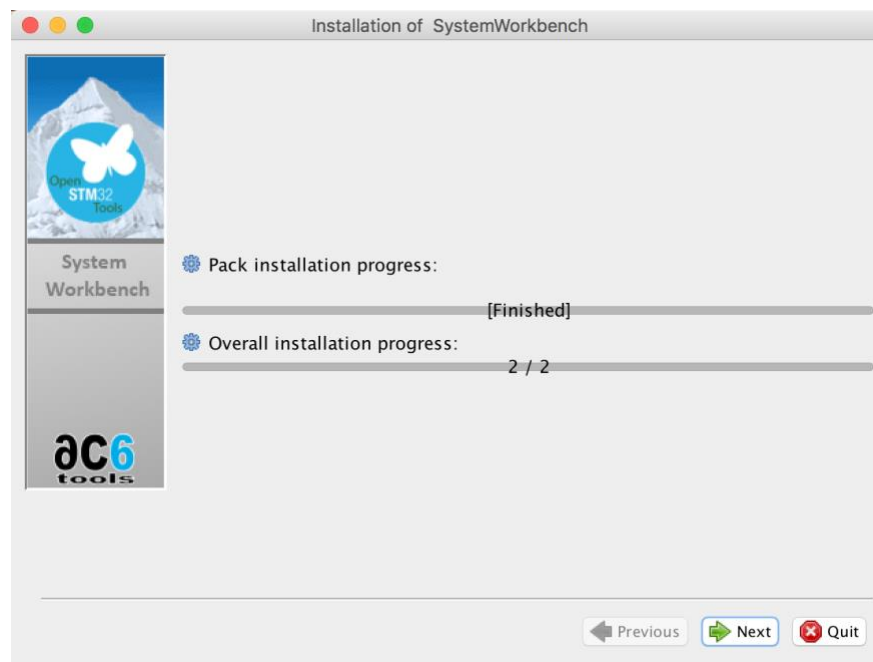

Figure 8: Installation has been finished
13. Wait until the installation has been finished. See Figure 8. **IF THE INSTALLATION IS STUCK at 2/2, CHECK YOUR TERMINAL AND ENTER YOUR MAC PASSWORD IF IT REQUIRES.**